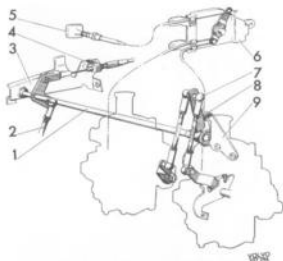

Fig. 2-116. Throttle control, B 20 B
Adjust the length of the long vertical link (2, Fig. 2-116) for the pedal so that there is a clearance of 1 mm (0.039") between the throttle lever lug and the full throttle stop on the carburetors, when the accelerator pedal is fully depressed.
11. Adjust the length of the long, vertical link (2, Fig. 2-116) for the pedal, so that there is a clearance of 1 mm (0.039") between the throttle lever lug and the full throttle stop on the carburetors, when the accelerator pedal is fully depressed.